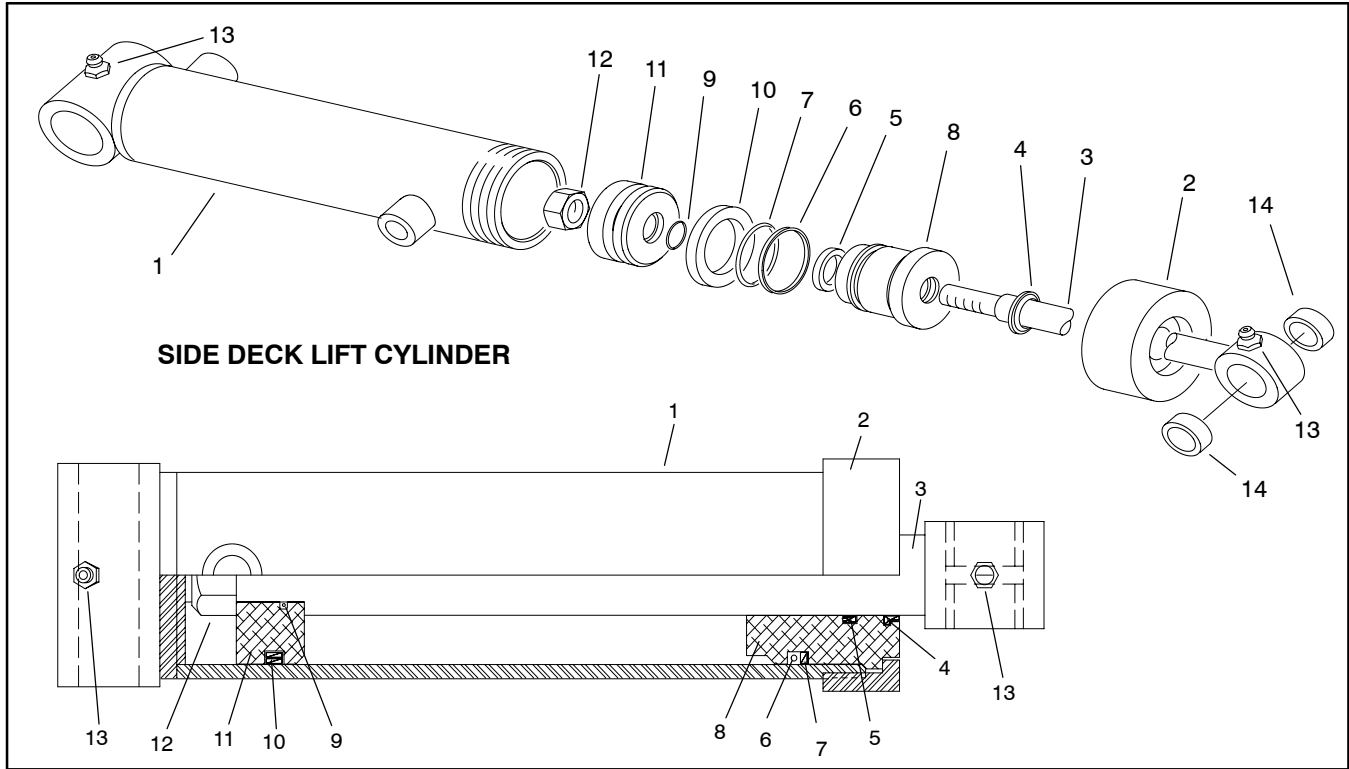

Figure 78
A. On cylinders without a retaining ring slot in the barrel (Figs. 78 and 79), use a spanner wrench to loosen and remove collar from barrel.
A. On cylinders without a retaining ring slot in the barrel (Figs. 78 and 79), use a spanner wrench to tighten collar into barrel.